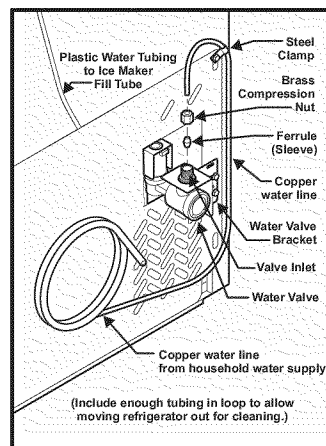

Figure 1
4. **If you use copper tubing** - Slide brass compression nut, then ferrule (sleeve) onto water supply line. Push water supply line into water valve inlet as far as it will go (1/4 inch/6 mm). Slide ferrule (sleeve) into valve inlet and finger tighten compression nut onto valve. Tighten another half turn with a wrench; **DO NOT** overtighten. See Figure 1.